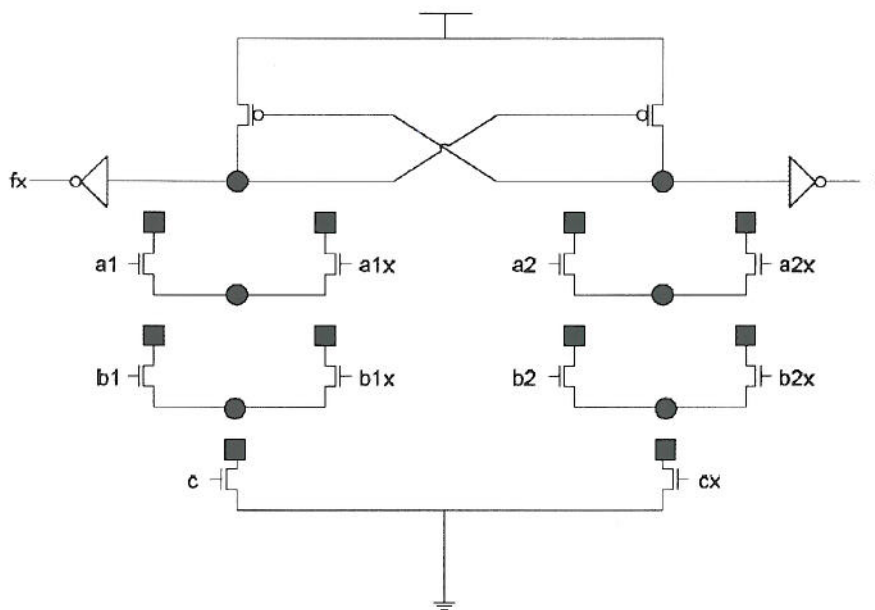

Figure 3.1
3. *Figure 3.1* shows the schematic of a Complementary Universal Logic Gate (CULG) which can be customised to implement various 3-input functions by connecting the drains of the NMOS transistors (indicated by dark squares) to the appropriate source terminals (indicated by dark circles). This circuit uses complementary inputs, such as a and a_x (a_x is the complement of a), and produces complementary outputs f and f_x .
d) Using a stick diagram or other symbolic representation, design the layout of the unprogrammed CULG cell (i.e. as shown in *Figure 3.1*), taking into account that the programmable interconnections are best done using vias (or contacts).